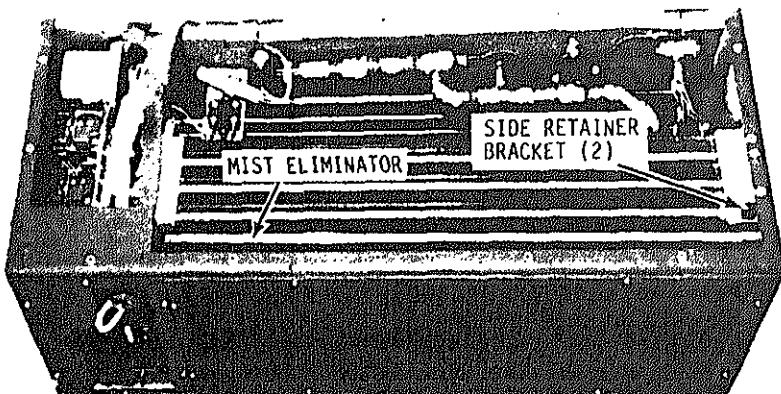

Figure 4-6. Mist eliminator removal and installation
(2) Refer to figure 4-6 and lift mist eliminator.
(1) Refer to figure 4-6 and install mist eliminator by sliding down into position.